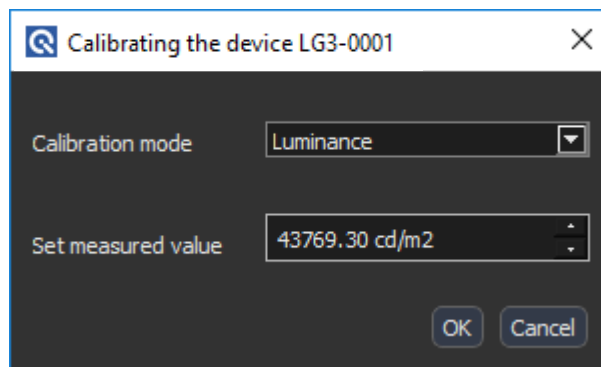

Figure 11 : Set Measured Value
- Change the measured value (ref. Figure 11 : Set Measured Value) as read from the external measurement device.